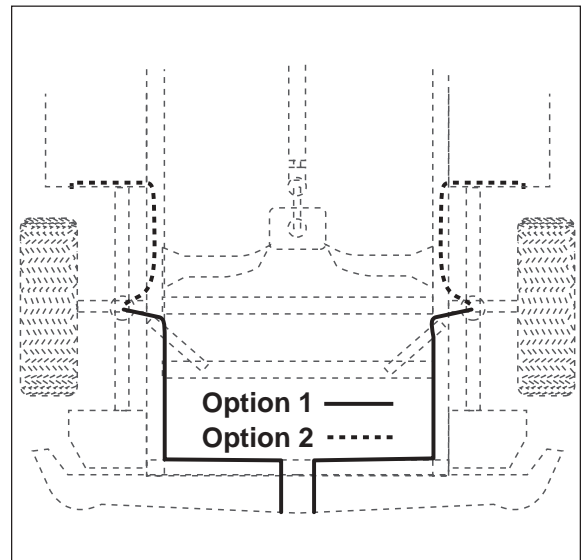

Figure 8
- a. Select a location for the inflation valves in the rocker panel flange, or front bumper, assuring that each valve will be protected and accessible with an air hose (Figure 8).